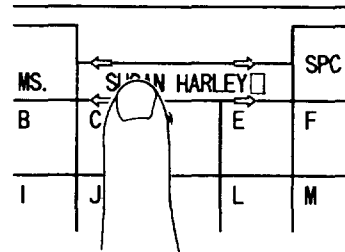

Figure 6-4 Depress Arrow for Correction
- ② Use the character keys to enter a patient name or ID number.
- ↔ or ↔ to move the cursor onto the character (Figure 6-4) and enter a correct character.